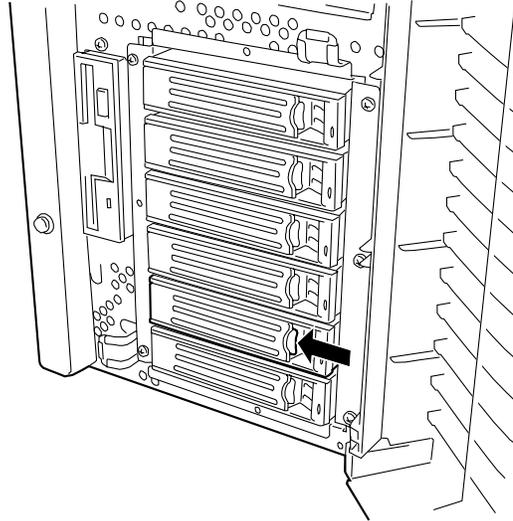

Figure 4-23. Releasing the Hard Disk Drive Carrier
2. Release the lock of the front bezel by using the security key to open the front bezel. See Figure 4-23.